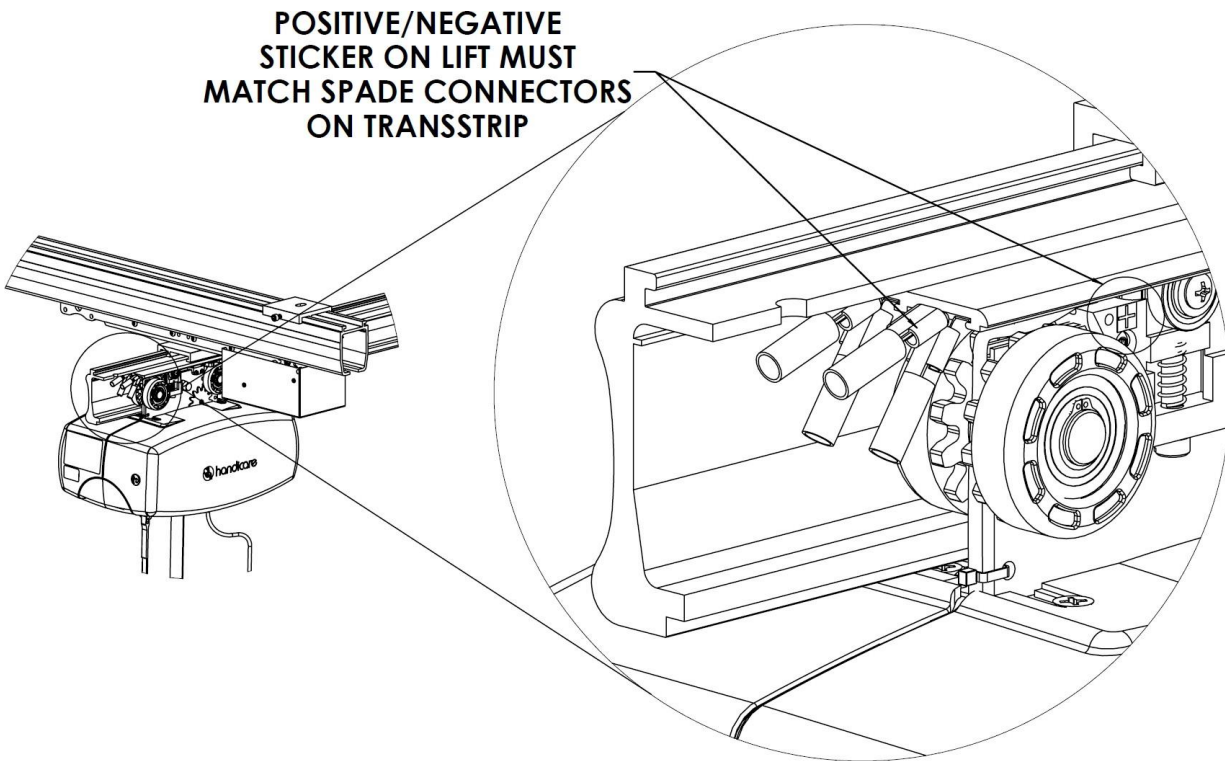

Figure 67: **Ceiling Lift Unit Polarity**
- Make sure the polarity of the ceiling lift unit and the TransStrip matches throughout the ceiling track system (Figure 67).